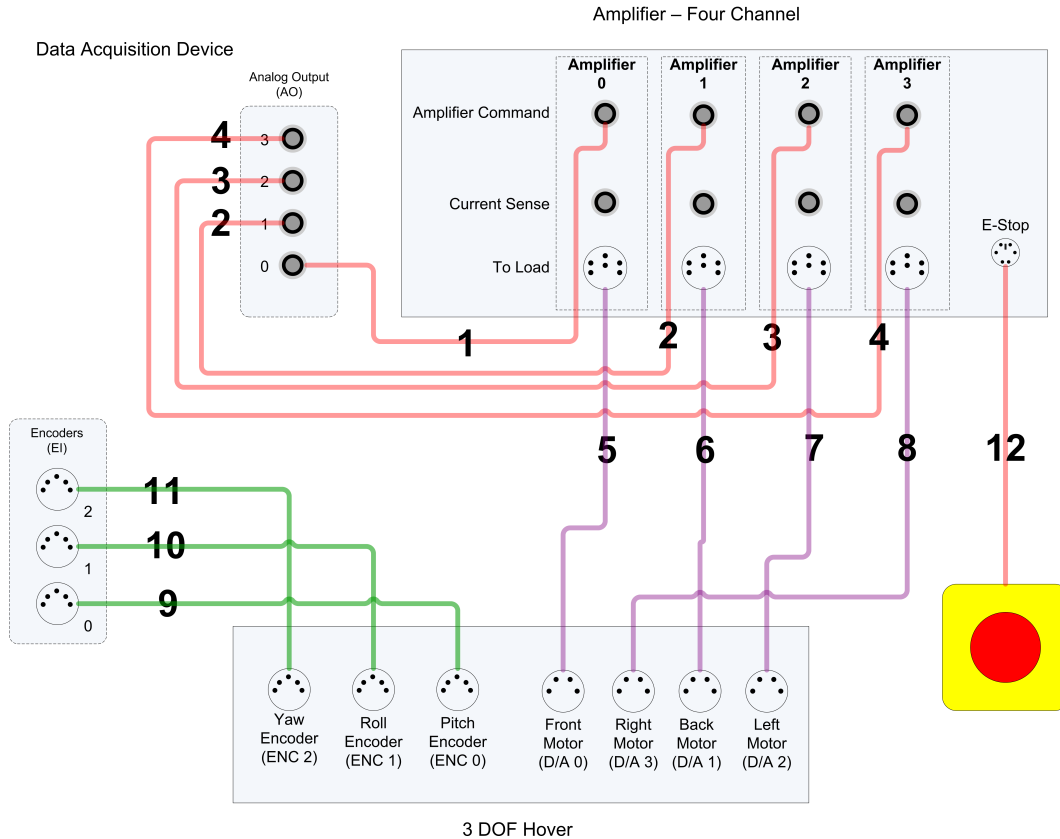

Figure 3.1: Typical connections of the 3 DOF Hover Experiment
This section describes the typical cabling connections that are used by default for the Quanser 3 DOF Hover system. The encoders are connected directly to the data-acquisition device and provide the necessary position feedback to control the helicopter. The data acquisition (DAQ) device outputs a control voltage that is amplified and drives the front, back, left, and right motors. Figure 3.1 illustrates the wiring between a generic data acquisition device, the Quanser 3 DOF Hover base, and a four-channel amplifier. These connections are described in detail in Section 3.3.1 and summarized in Table 3.1.
**Note:** Your configuration may be different. For instance, you may have a DAQ with more channels than the one presented in Figure 3.1 or have four single-channel amplifiers that do not require any Emergency Stop (in which case, you would omit connection #12).
3. Connect one of the connectors on the 2x RCA to 2x RCA cable from the *Analog Output Channel #0* on the terminal board to the Amplifier 0 *Amplifier Command* connector. This is illustrated by connection #1 in Figure 3.1.
4. Connect the other line of the 2XRCA to 2XRCA cable from the *Analog Output #1* connector on the terminal board to the Amplifier 1 *Amplifier Command* connector. This is illustrated by connection #2 in Figure 3.1.
5. Connect a 4-pin-DIN to 6-pin-DIN cable from Amplifier 0 *To Load (3x Amplifier Command)* connector, to the *Pitch Motor (D/A 0)* connector on the Quanser 3 DOF Hoverplant. This is illustrated by connection #3 in Figure 3.1.
6. Connect another 4-pin-DIN to 6-pin-DIN cable from the Amplifier 1 *To Load (3x Amplifier Command)* connector, to the *Yaw Motor (D/A 1)* connector on the Quanser 3 DOF Hoverplant. This is illustrated by connection #4 in Figure 3.1.
7. Connect a 5-pin-stereo-DIN to 5-pin-stereo-DIN cable from the *Encoder 0* connector on the terminal board, to the *Pitch Encoder (ENC 0)* connector on the Quanser 3 DOF Hoverplant. This is illustrated by connection #5 in Figure 3.1.
8. Connect another 5-pin-stereo-DIN to 5-pin-stereo-DIN cable from the *Encoder 1* connector on the terminal board to the *Yaw Encoder (ENC 1)* connector on the Quanser 3 DOF Hoverplant. This is illustrated by connection #6 in Figure 3.1.
9. Connect the emergency stop switch to the E-Stop connector on the amplifier. This is illustrated by connection #7 in Figure 3.1.